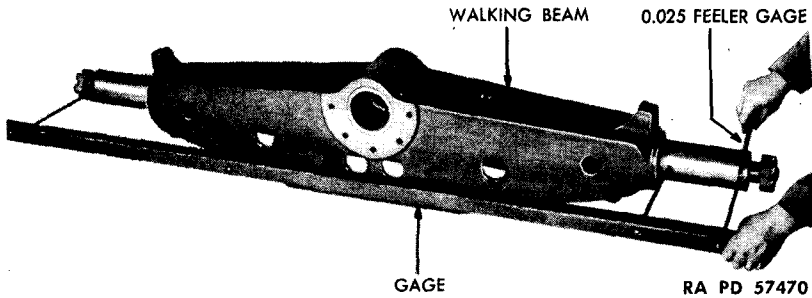

Figure 15 — Checking Walking Beam for Bend
(3) **CHECK FOR BEND** (fig. 15). Place the gage in position on front side of walking beam, with the single-pronged end of the gage held firmly against the extreme outer end of rocker beam bearing surface. Adjust the double prongs on the other end of the gage until they contact the bearing surface. Now move the gage over to the rear side of the walking beam. If either of the two prongs fails to contact the spindle, a bend in the walking beam is indicated. Use a feeler gage to determine the amount of the bend. If it is in excess of 0.025 inch, replace walking beam. If checking both sides of one spindle